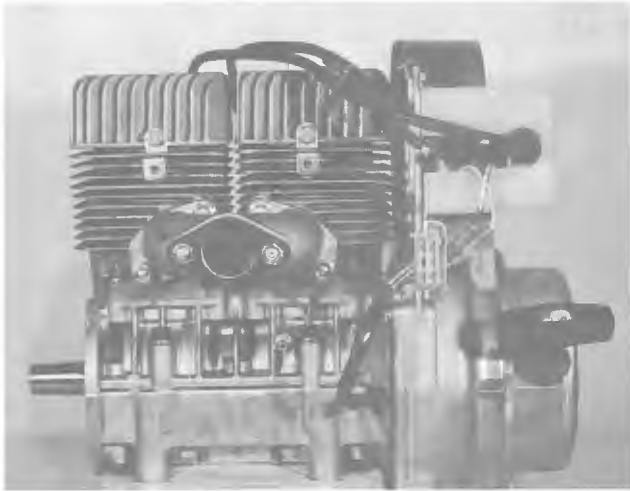

FIGURE 3-1 CYLINDER COVER REMOVED
- b. Remove the bolts securing cylinder cover to engine body. Remove cover. See Figure 3-1